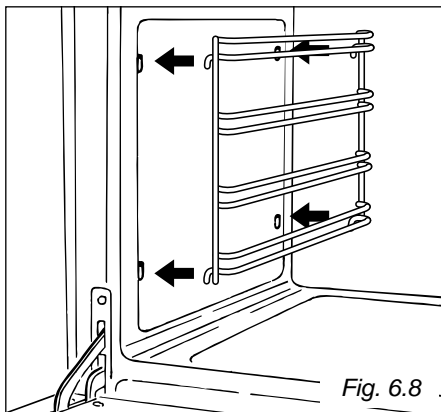

Fig. 6.8
- Fit the side runner frames into the holes on the side walls inside the oven (Fig. 6.8).